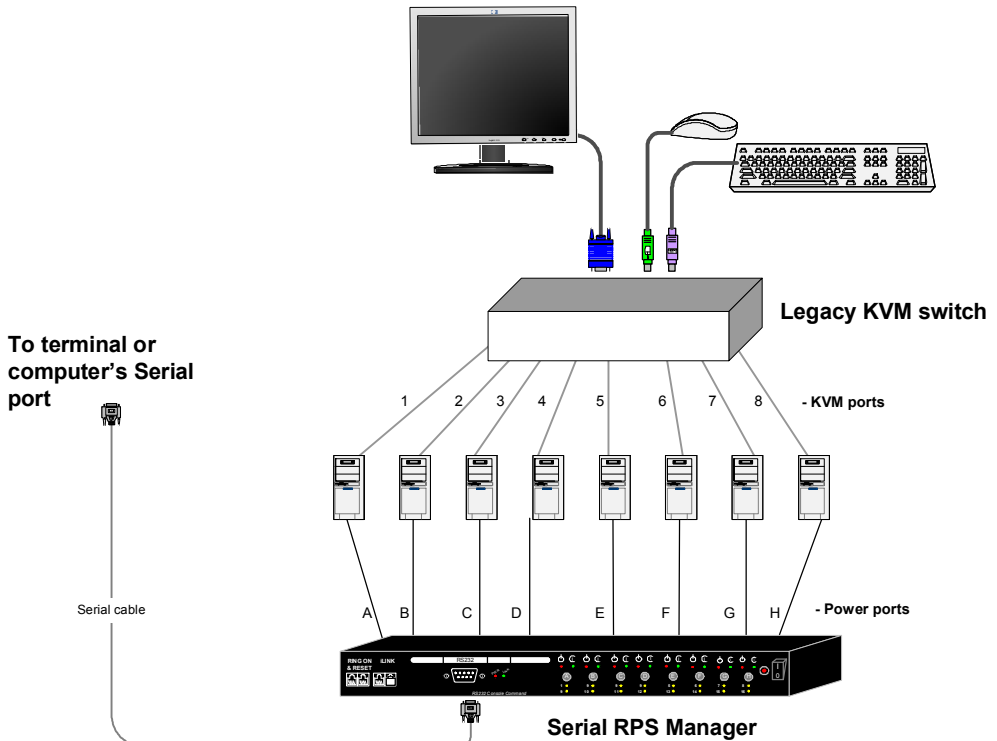

Figure 6 SRPS connection diagram
1. Connect the power cord sockets of the computers and other devices to the Output ports of the SRPS, see Figure 6.